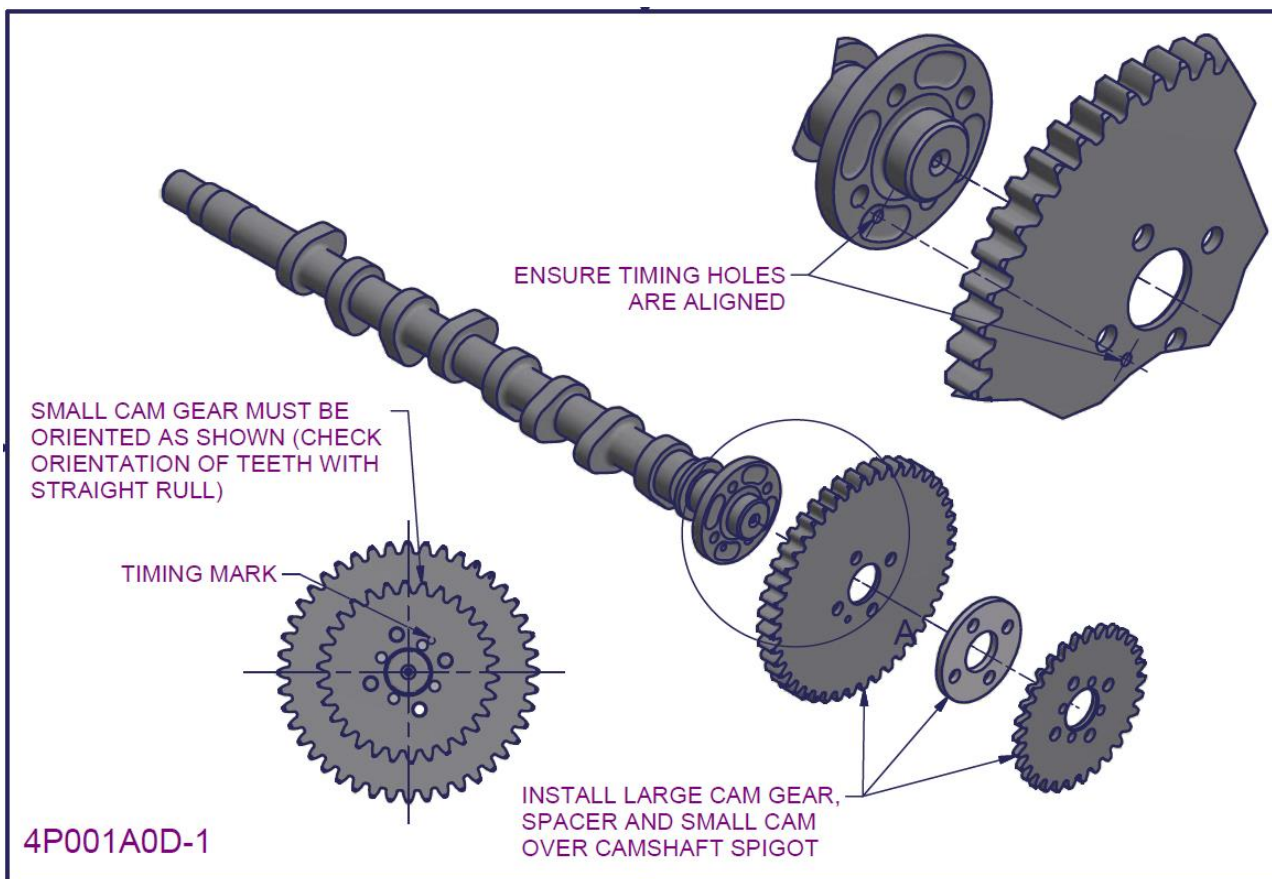

Figure 31 – 2200/3300 camshaft subassembly 1
- Ensure the small cam gear is correctly oriented as shown in Figure 31.